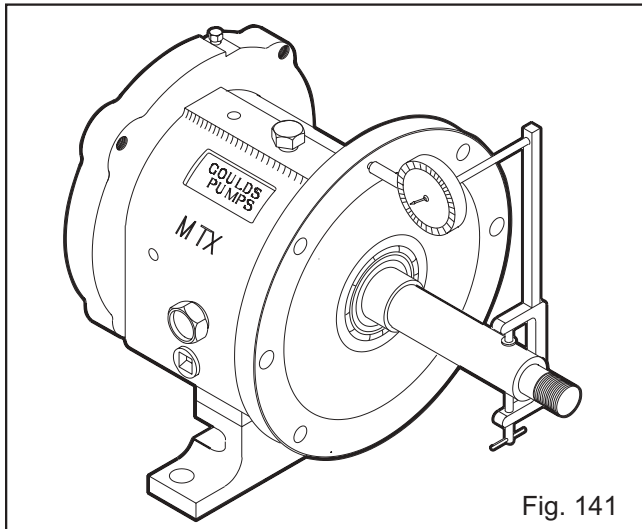

Fig. 141
4. Check frame face run out. Rotate shaft so indicator rides along the fit for 360 degrees. If total indicator reading is greater than 0.001 in. (.025 mm) disassemble and determine cause (Fig. 141).